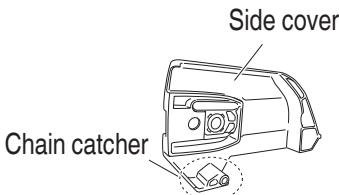

Fig. 47
6. Inspecting the chain catcher (Fig. 47)